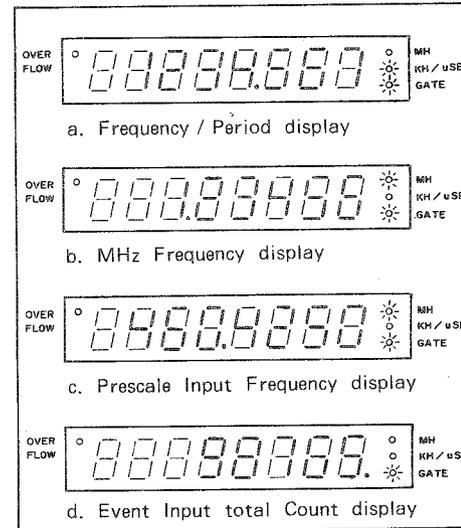

Figure 4. Various Display Examples
Figure 4 shows display examples.
Figure 4 a indicates the value of "1234.567" with kHz/ $\mu$ s LED ③ active. This means that the counter is now measuring the frequency or period selected by FUNC switch ⑬.
With those functional parameters left unchanged, use the FUNC switch to select the MHz/100MHz mode. The display value will change to the one as shown in Figure 4 b. This means that the same frequency is still being measured but the measurement value is now displayed in MHz. In other words, the display resolution value has not been changed with GATE switch ⑭ but the display resolution value has changed from 1Hz (0.001kHz) to 10Hz (0.0001MHz).
With this gate time value unchanged, use the FUNC switch to select the prescale mode (CH B/1.3GHz). The measurement value on the display will be change to the one as shown in Figure 4 c. This means that the display resolution value has
Figure 4 d shows the typical display example in the event total measurement mode. The total measurement value does not require any display unit. As a result, it is displayed in integer (no display data following the decimal point).